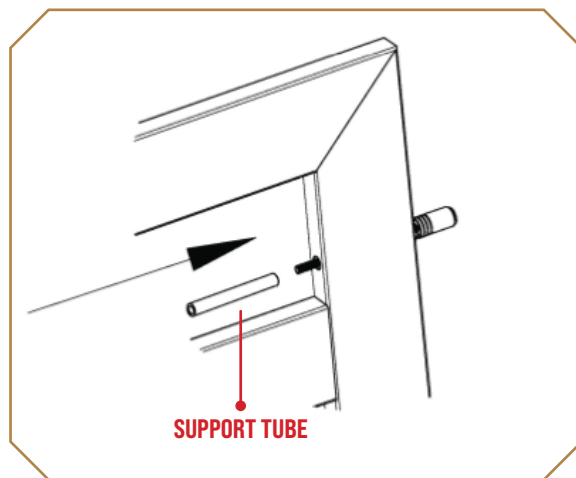

Figure 2
2. Slide the flanged support tube onto the pin from the inside of the gate around the latch pin (Figure 2).